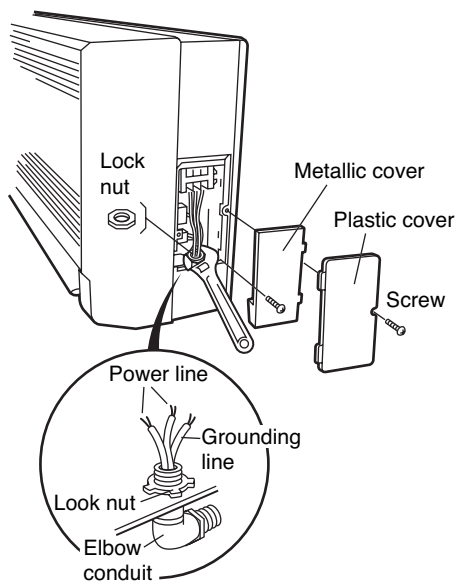

Fig. 3-60
(Fig. 3-60 or 3-61, depending on model.)
- (3) Secure the conduit connector to the chassis with a lock nut. (Fig. 3-60 or 3-61)
- (4) Give some play to the inter-unit wiring from the outdoor unit to the corresponding terminals on the terminal plate.